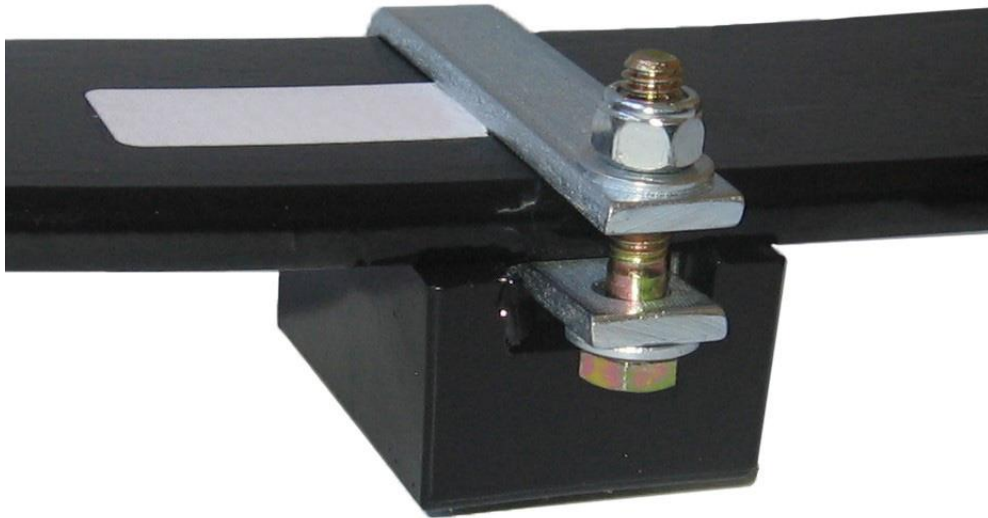

Fig. 5
Step 7: Install Hold-down Clamp (Fig. 5)